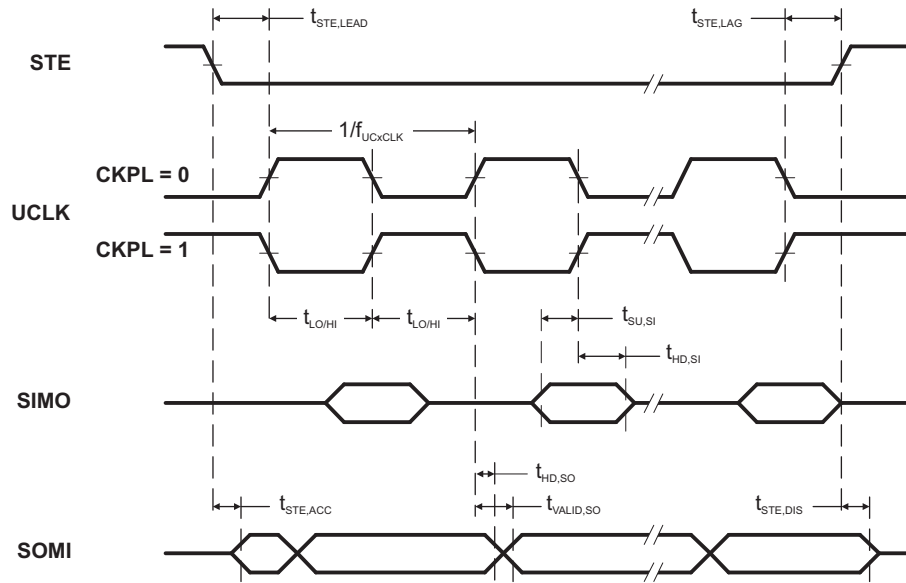
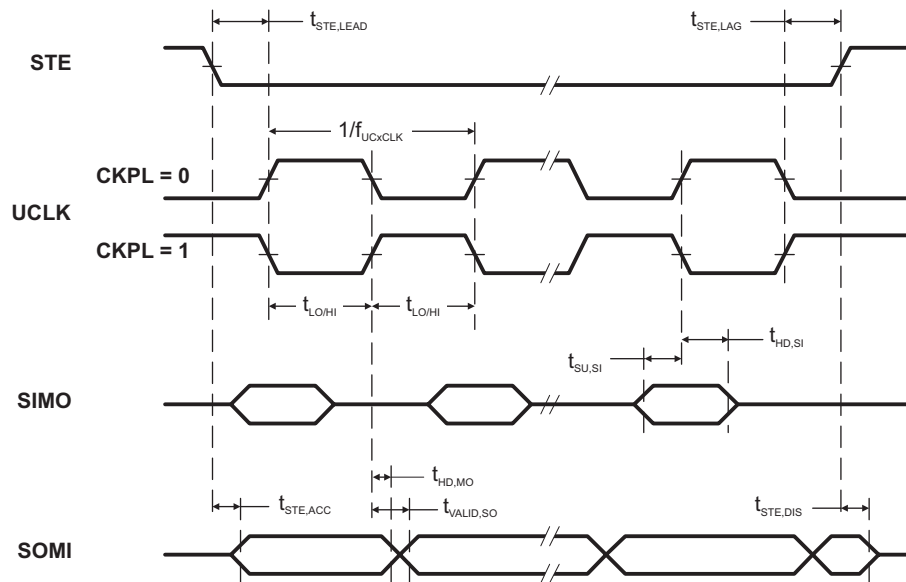

Figure 5-13. SPI Slave Mode, CKPH = 0
Figure 5-14. SPI Slave Mode, CKPH = 1
(see Note ⁽¹⁾, Figure 5-13 and Figure 5-14)
- (2) Specifies the time to drive the next valid data to the SOMI output after the output changing UCLK clock edge. See the timing diagrams in Figure 5-13 and Figure 5-14.
- (3) Specifies how long data on the SOMI output is valid after the output changing UCLK clock edge. See the timing diagrams in Figure 5-13 and Figure 5-14.